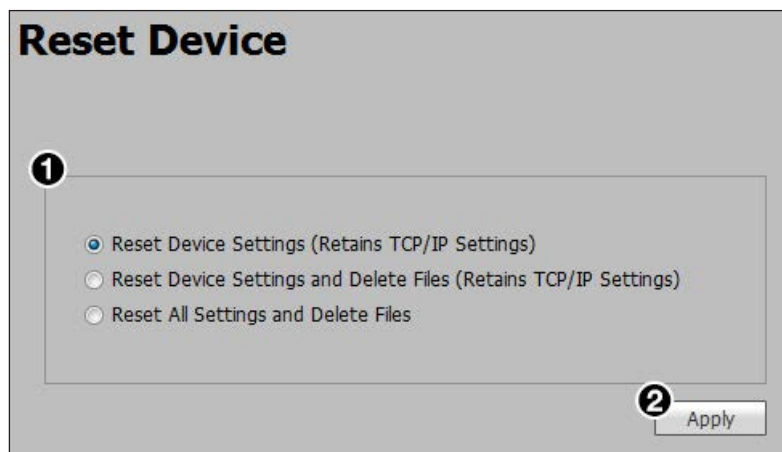

Figure 89. Reset Device Page
1. Click the radio button of the desired reset option (see figure 89, **1**, on the previous page).